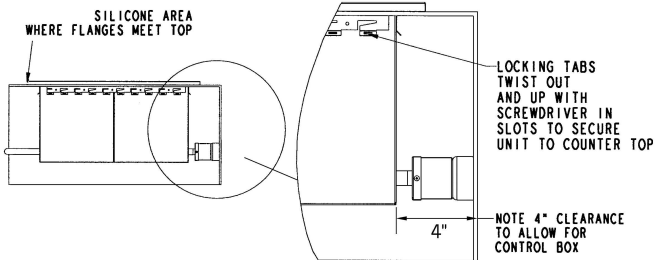

figure 2
**Note:** 20" of cable is supplied with the unit. Be sure holes are within cable reach. Allow minimum 4" clearance for control box as shown in figure 2.
Install unit in opening with controls forward using long flat screwdriver. Secure unit with locking tabs provided as shown in figure 2.
Mount control panel(s) in cutouts with screws, rivets or other fasteners (not provided). Refer to figures 2 and 3 (cutout dimensions C, C2, and D are specified in table seen in Step 1). To facilitate control panel installation, the recessed panel can be removed from the control box by removing control knobs and (2) #8 drive screws.